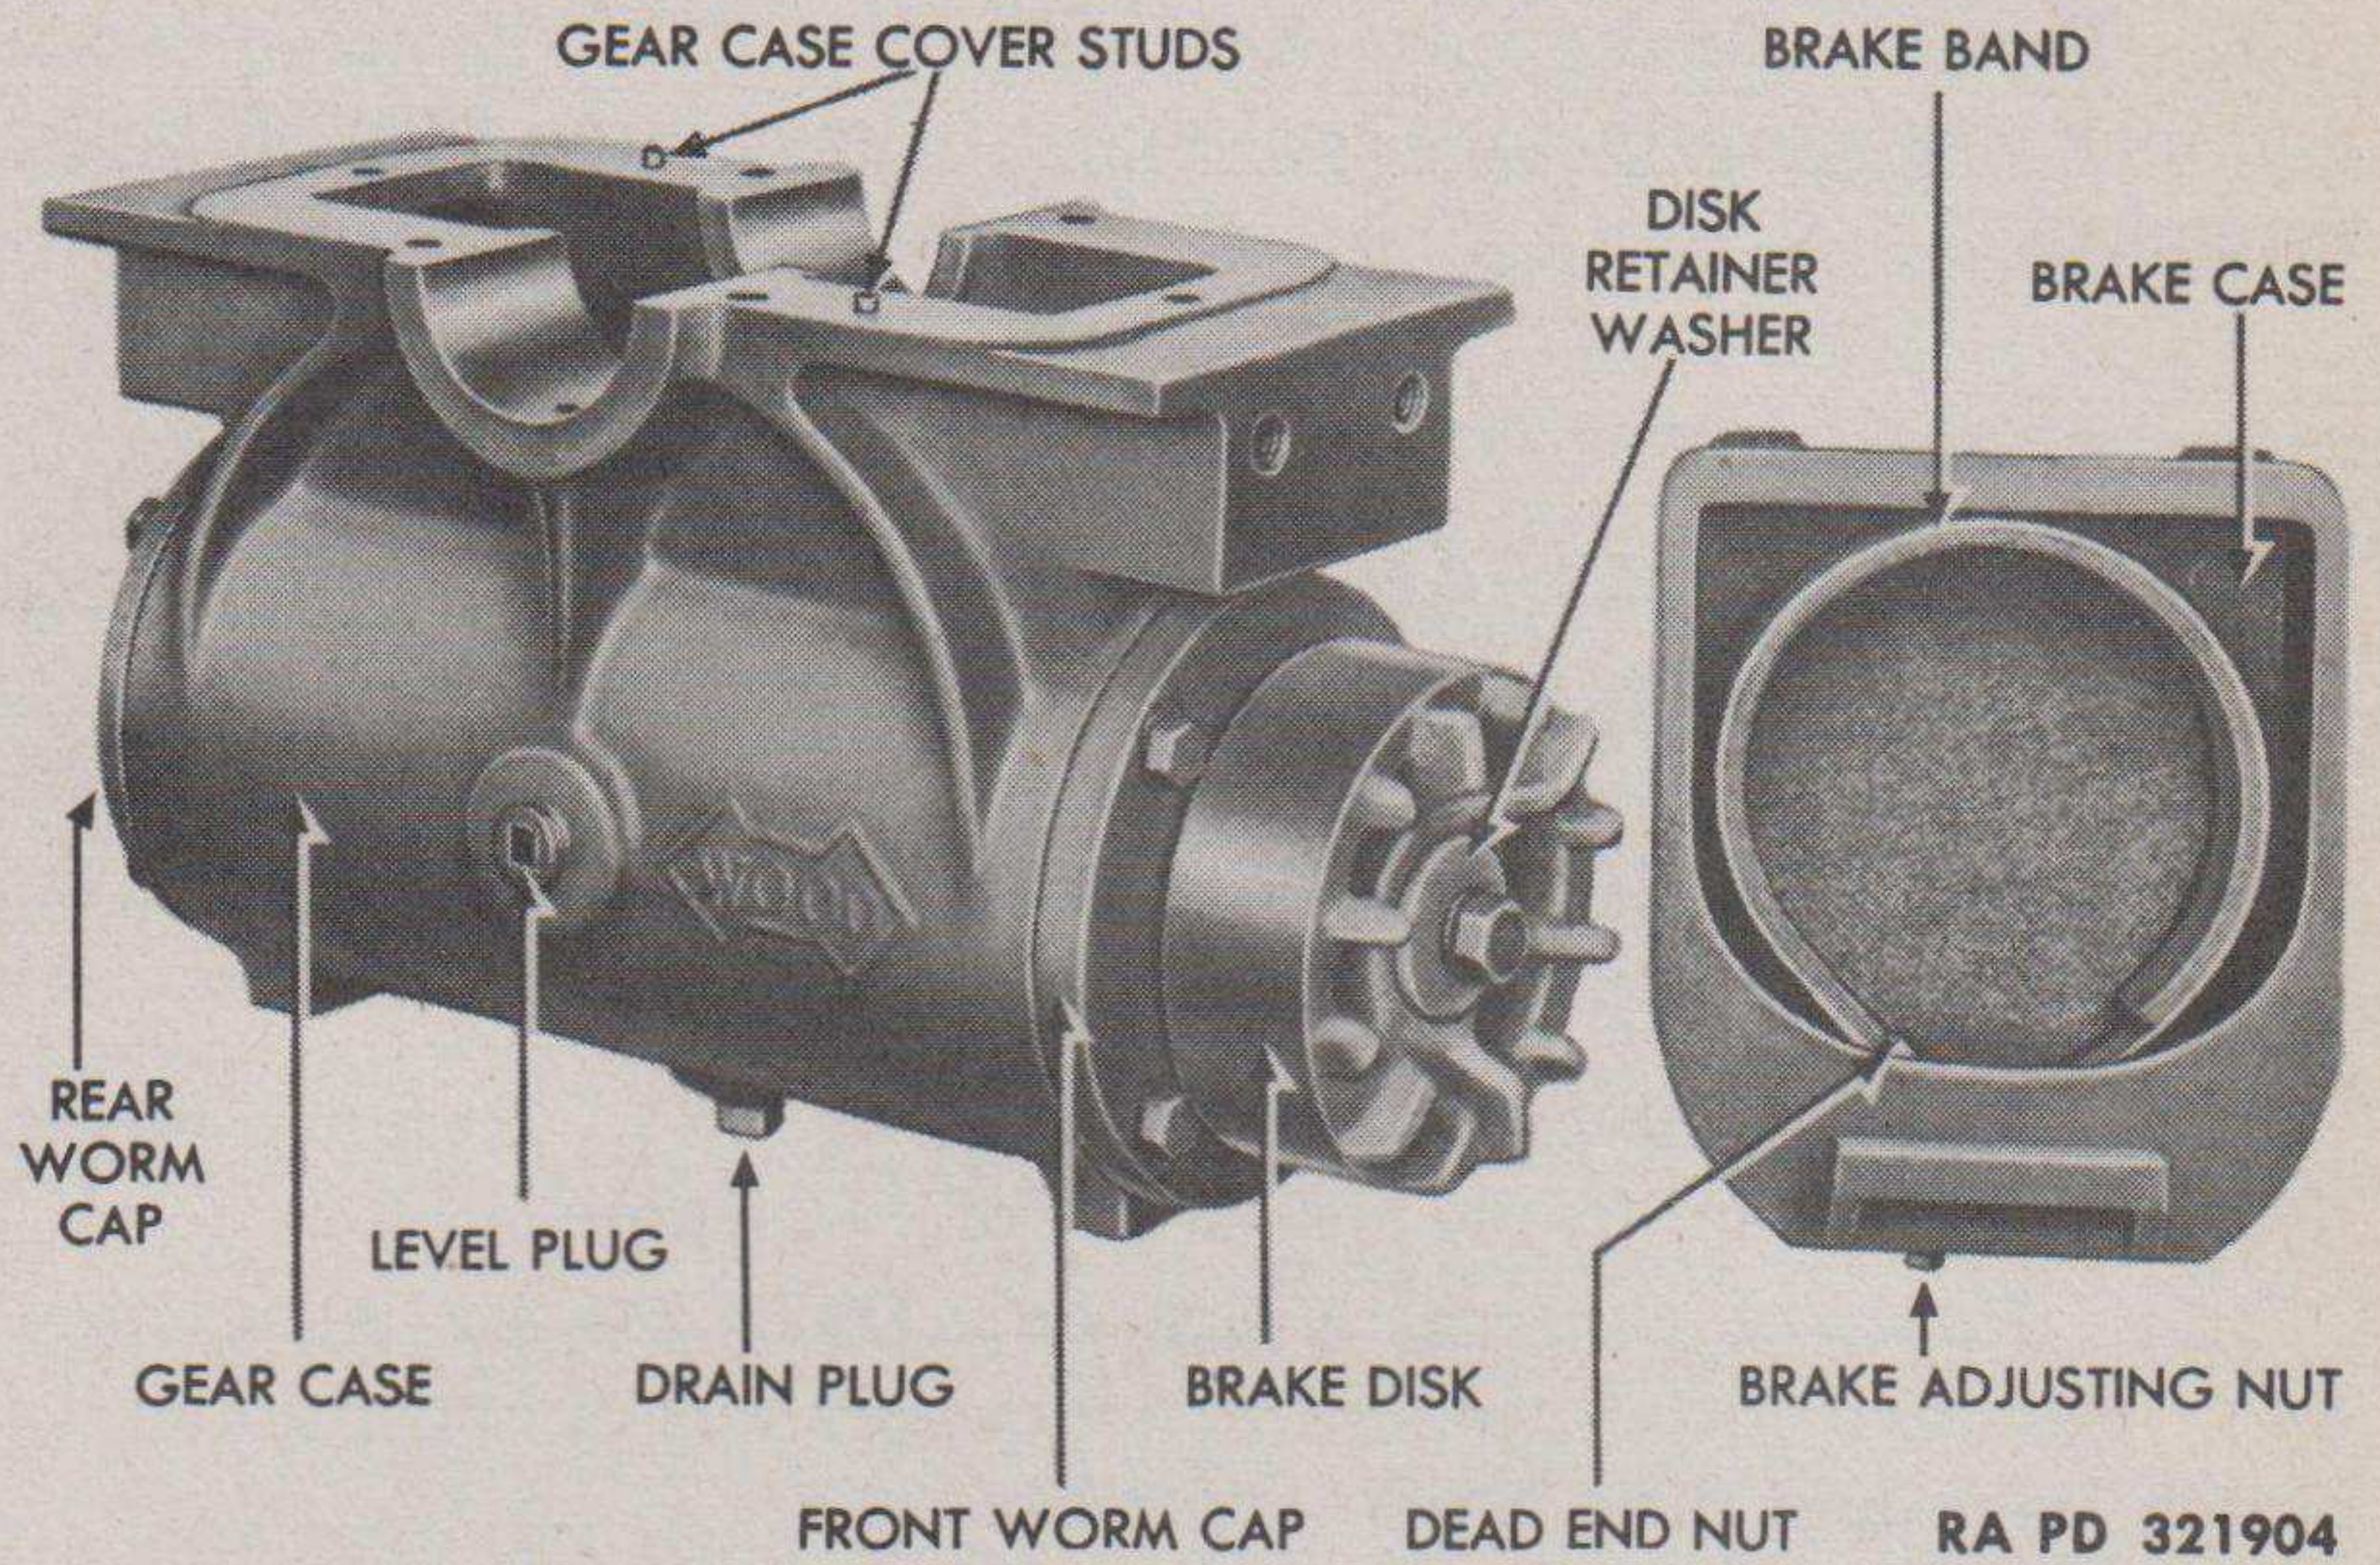

Figure 86 — Winch Gear Case Assembly — Brake Case Removed
- b. **Drain Gear Case (fig. 86).** Remove drain plug from bottom of gear case and drain lubricant.
f. **Remove Brake Case Assembly** (fig. 86). Remove cap screws and lock washers attaching brake case to gear case. Tap off brake case assembly.
(1) **REMOVE BRAKE BAND** (fig. 86). Remove two brake adjusting nuts, spring washer, and brake spring. Remove dead end brake nut, and lift brake band out of case.
(2) **REMOVE BRAKE LINING** (fig. 86). Remove brake lining from brake band if necessary (subpar. b, below) by filing off rivets.
(1) **INSTALL BRAKE LINING** (fig. 86). Cut off 12 $\frac{3}{4}$ inches of brake lining. *NOTE: A special type of lining is used; do not substitute ordinary brake lining filled with gummy material which will boil out, stick to the disk, and cause jerky brake action.* Form lining roughly by hand and clamp to inside of brake band. Drill rivet holes five thirty-seconds inch, drilling through holes already in band. Countersink with $\frac{5}{16}$ -inch drill, drilling from inside diameter of band to a depth two-thirds the thickness of lining. Install rivets with heads in countersunk holes in lining. Tap rivet ends with a hammer to bur them over brake band.
(2) **INSTALL BRAKE BAND** (fig. 86). Install dead end brake nut on short threaded rod on brake band. Fit both ends of brake band into case. Install dead end brake nut on end of brake band outside
(3) **INSTALL WORM CAPS** (figs. 86 and 90). Using new gaskets, install front and rear caps. Secure caps to gear case with lock washers and cap screws.
(4) **INSTALL BRAKE DISK** (figs. 86 and 90). Tap brake disk key into keyway on end of worm shaft. Tap brake disk onto shaft. Install disk retainer washer, lock washer, and cap screw.